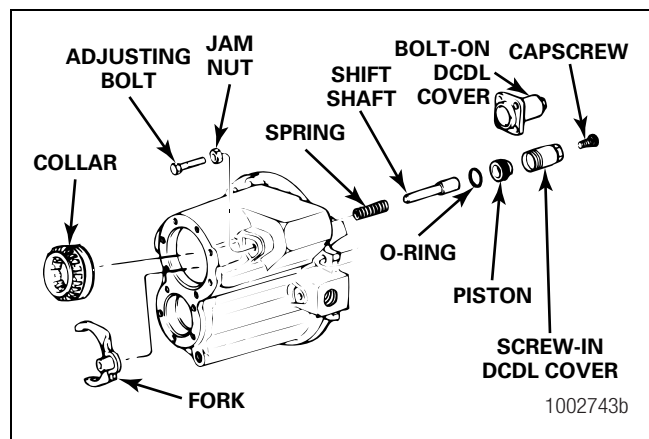

Figure 3.38
2. Remove the piston from the shift shaft. Figure 3.38.